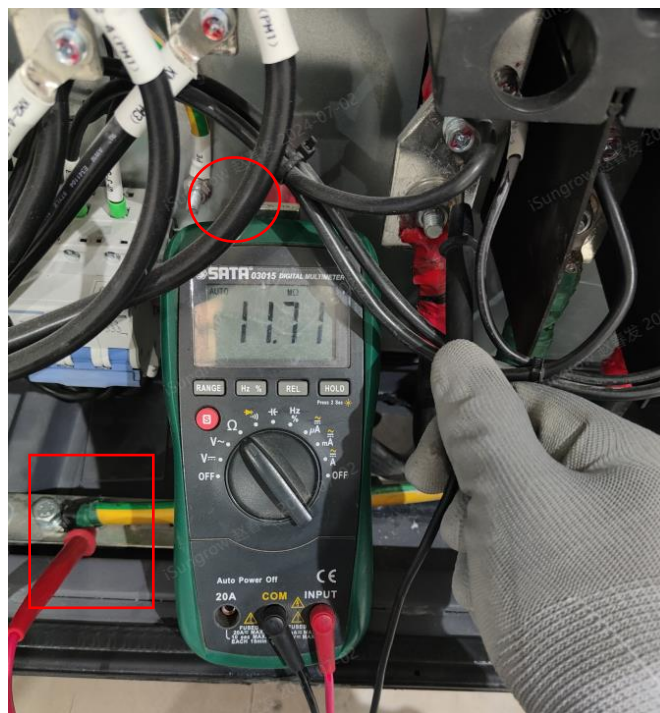

Figure 8-1
1) Set the AC switch to "ON", and measure the resistance between the R/S/T and the enclosure with the Ω range of the multimeter. If the resistance value is greater than $1\text{M}\Omega$, it is normal. If it is lower than $1\text{M}\Omega$, it means that the wire is grounded, as shown in Figure 8-1.